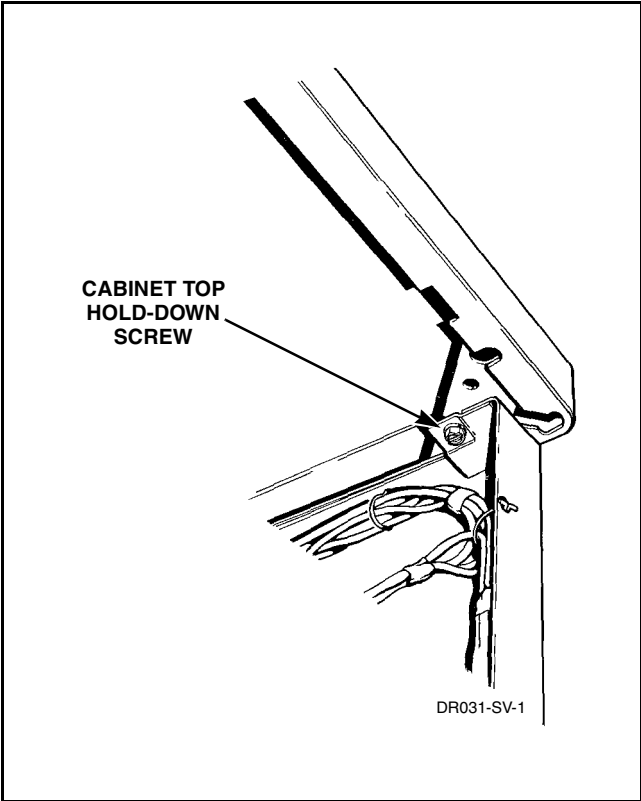

Figure 14
- l. Remove two cabinet top hold-down screws. Refer to *Figure 14*.
- k. Remove two cabinet top hold-down screws. Refer to *Figure 14*.
- m. Remove two cabinet top hold-down screws. Refer to *Figure 14*.